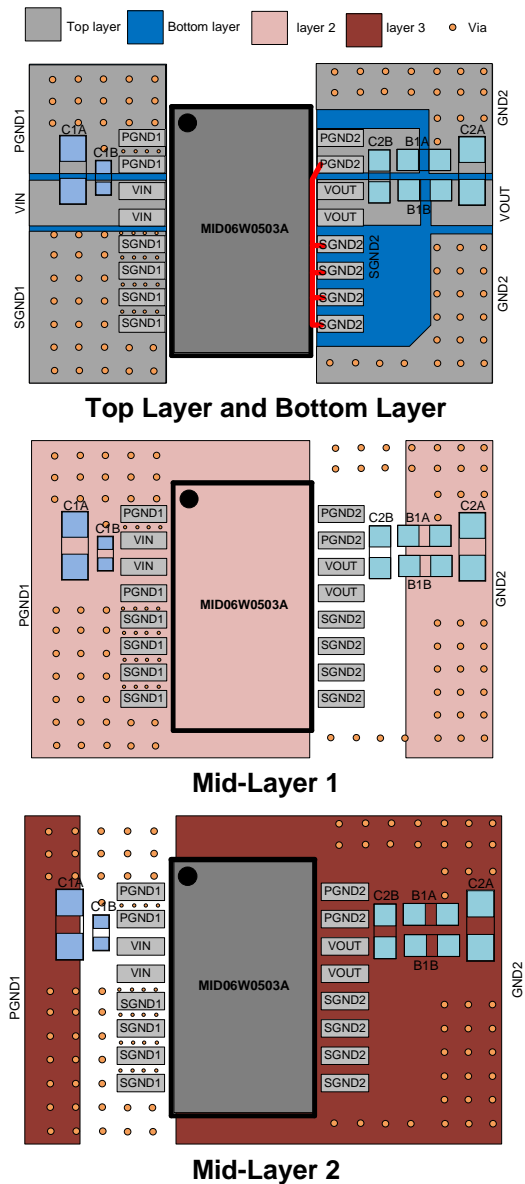

**Figure 2: Recommended EMI Schematic**
8) See Figure 2 on page 9 and Figure 3 on page 10 for details on the EMI circuit and PCB layout.
Aside from the two PCB layout techniques described above, a pair of ferrite beads are required to form a CLC structure filter (see Figure 2). Place this filter as close to VOUT and PGND2 as possible. The capacitor closest to the IC (C2B) should be  $\geq 4.7\mu\text{F}$  to ensure a stable output. Do not place large copper areas on the secondary side pins, as this can increase switching noise and EMI. Connect SGND2 and PGND2 using a thin trace. Connect SGND2 and PGND2 using a thin trace.